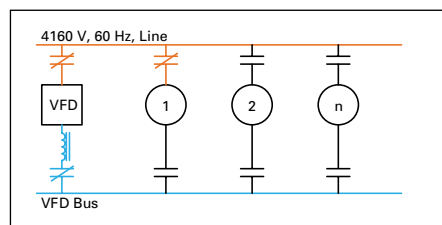

Figure 10.5-12. VFD Transfers Motor #1
- PLC opens motor select contactor (Figure 10.5-12)